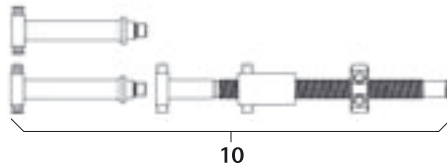

Fig. 16
- Mount distraction spindle 10, see Fig. 16.